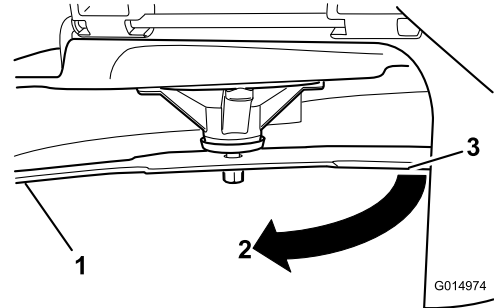

Figure 67
4. Rotate the same blade 180 degrees so that the opposing cutting edge is now in the same position (Figure 67).